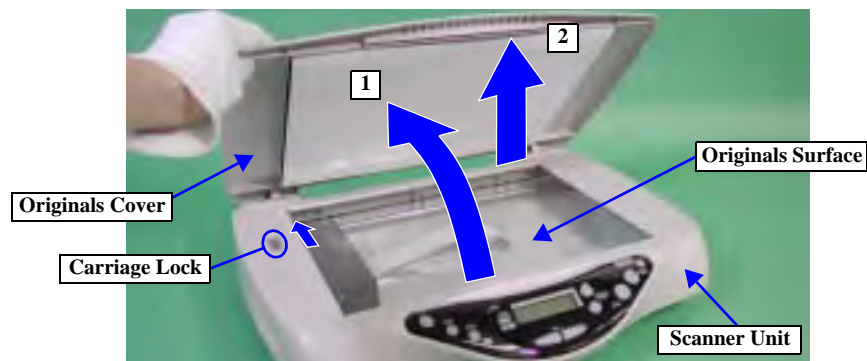

Figure 4-8. Hinge Removal 1
2. Follow the order shown in Figure 4-8 to remove the Originals Cover from the Scanner Unit.
When removing the Hinge, do not spread marks or dirt on the surface of the originals cover. (See Figure 4-8)